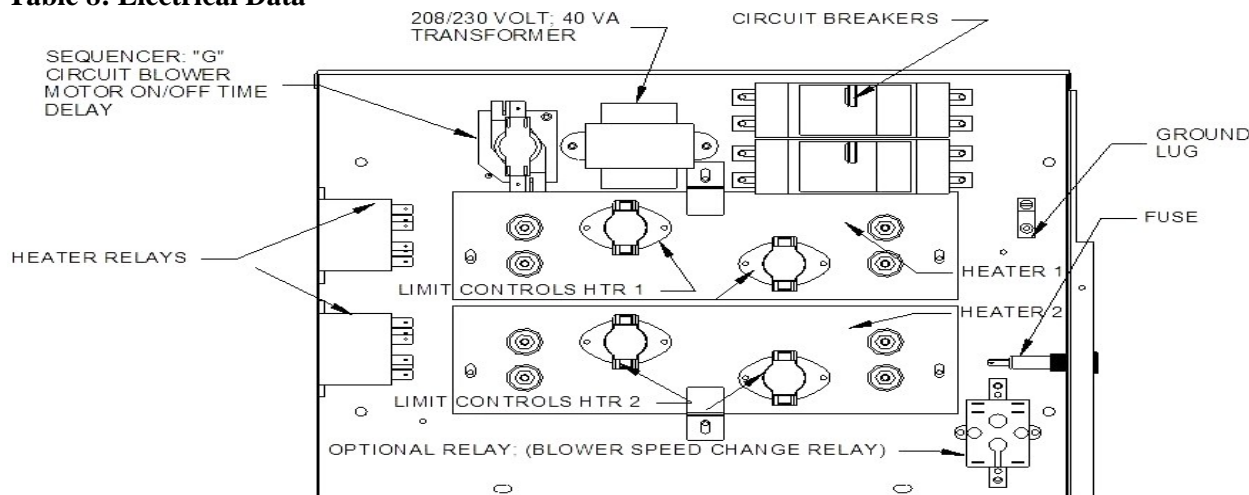

Figure 13: Control Box Component Locations
7. If you are using a single circuit for a 15kW, 17kW, or 20kW model you will need to install a black jumper wire from the L1 terminal on circuit breaker #1 to the L1 terminal on circuit breaker #2 and a white or red jumper wire from the L2 terminal on circuit breaker #1 to the L2 terminal on circuit breaker #2. Refer to Figure 13 for circuit breaker locations.